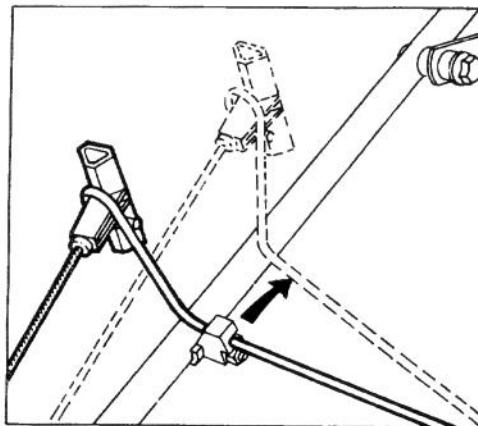

Figure 11
3. Swing rope rod over to right (Fig. 11).
7. To reinstall bag, repeat steps 4 and 5. Then swing rope rod to the left and push rod into retaining bracket (Fig. 11).